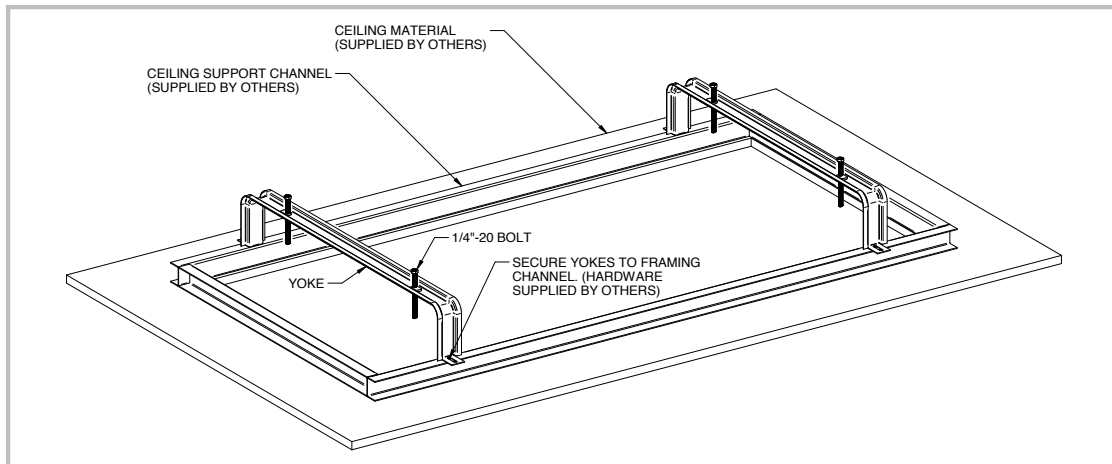

Figure 2: Yoke Mounting
4. Thread the 1/4"-20 bolts through the yokes from the top and secure yokes to the support framing on plenum side of ceiling opening as shown in **Figure 2**.